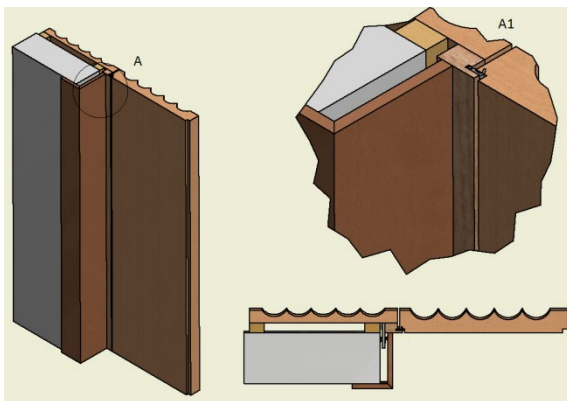

Fig. 6
2. **Also fix it to the wall using the supplied brackets. (fig. 6)**